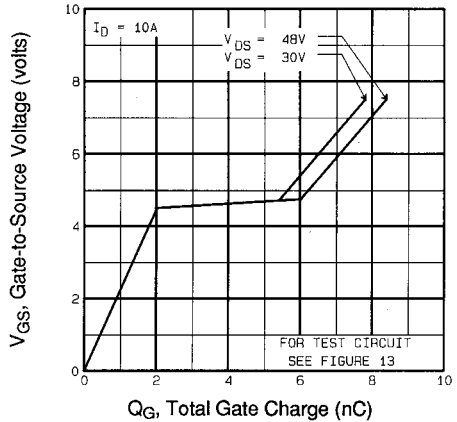

Fig 6. Typical Gate Charge Vs. Gate-to-Source Voltage
| Q_{gd} | Gate-to-Drain ("Miller") Charge | — | — | 6.0 | | $V_{GS}=5.0V$ See Fig. 6 and 13 ④ |